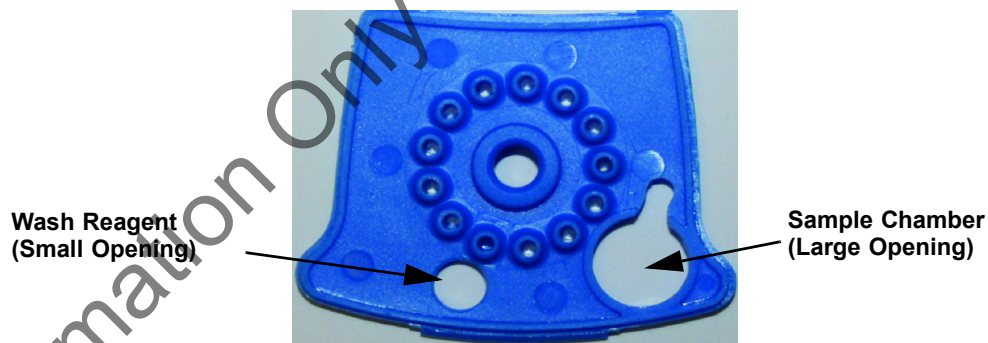

Figure 1. Xpert BCR-ABL Ultra Cartridge (Top View)
3. Open the cartridge by lifting the cartridge lid and transfer the entire contents of the Wash Reagent (1) ampoule to the Wash Reagent chamber (with small opening). See Figure 1.
4. Pipette the entire contents of the prepared sample into the Sample Chamber (large opening). See Figure 1.
14. To the new conical tube containing the external control sample, add 1.5 mL of retained Lysis Reagent (LY) from Step 7.
19. Open the cartridge by lifting the cartridge lid and transfer the entire contents of the Wash Reagent (1) ampoule to the Wash Reagent chamber (with small opening). See Figure 1.
20. Pipette the entire contents of the prepared external control into the sample chamber (large opening). See Figure 1.